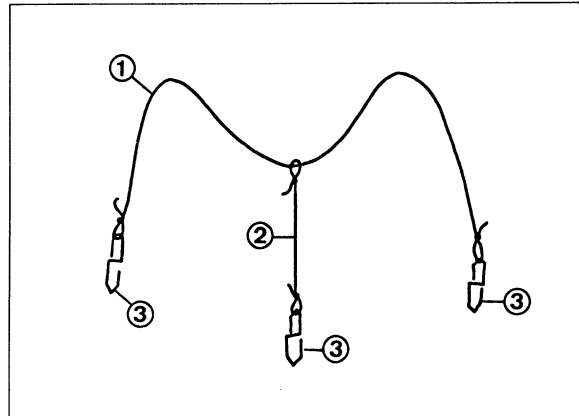

Fig. 2 Supplementary sketch showing how to prepare the cords:
3. Cut a 60 cm length from the cord and tie a loop at each end as shown ► Fig. 2.
5. Thread the short cord onto the longer cord, as shown in fig. 2.